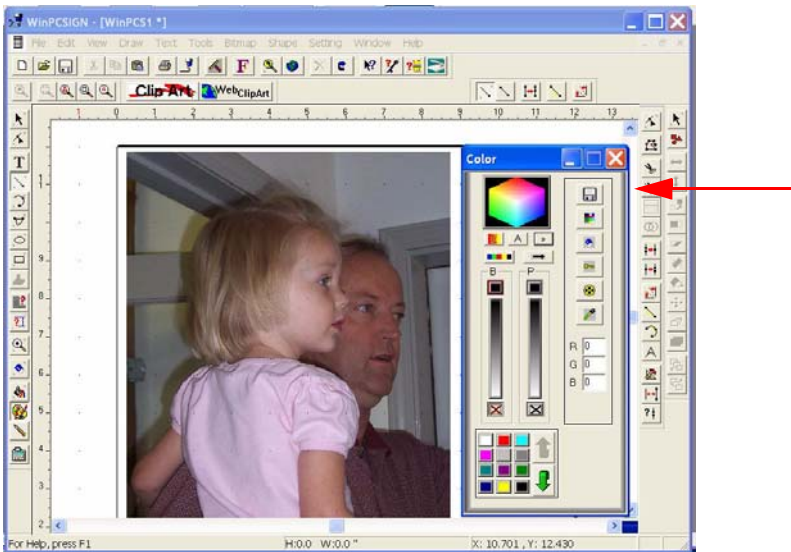

Figure 126
- 5 Click the **Color Palette** tool to open the **Color** window. See figure 126.